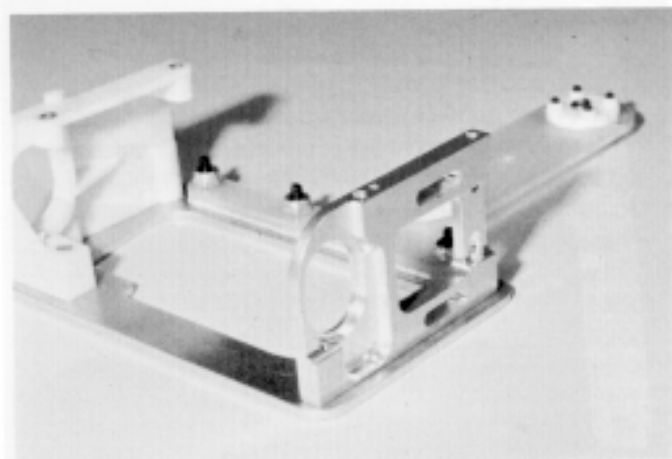

Fig. 22
□ **Fig. 22** Your completed rear end and T-bar will look like this now.